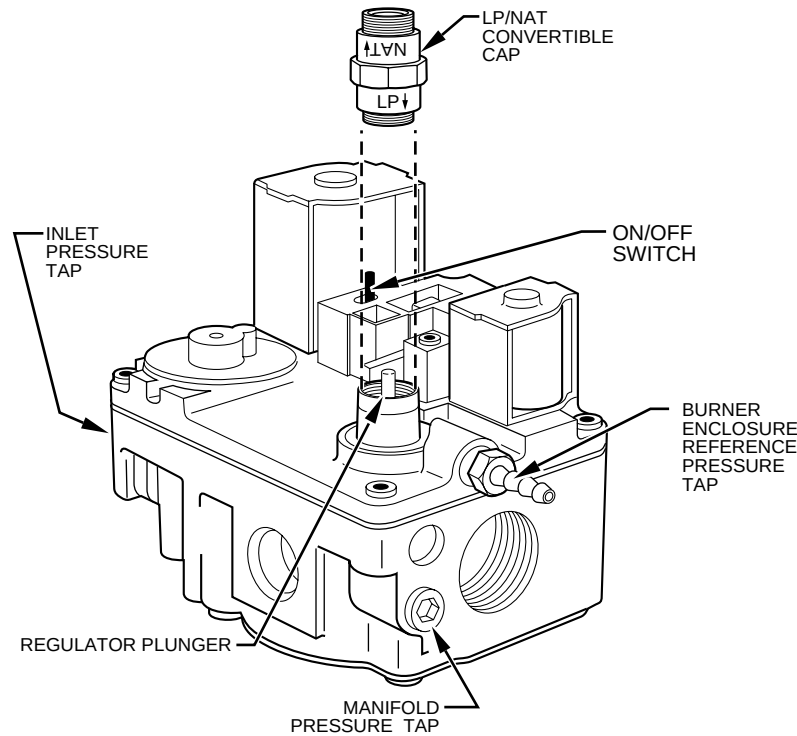

Fig. 16—Redundant Convertible Automatic Gas Valve
- t. Reinstall burner enclosure pressure tube to gas valve burner enclosure reference pressure tap. (See Fig. 16.)
- b. Remove LP/NAT cap that conceals adjustment screw for gas valve regulator. (See Fig. 16.)